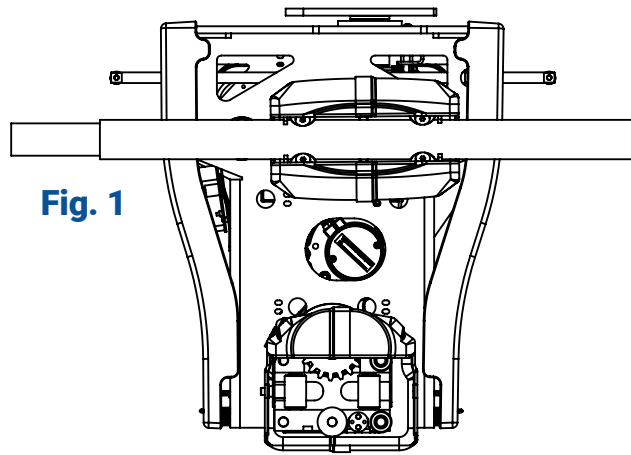

Fig. 1
- Then connect the joystick cable to the PCB cable which is located inside the chassis above the upper battery (Fig 1), making sure the 2 cables are free to move as the chair rotates, then the front battery can now be fixed back on.